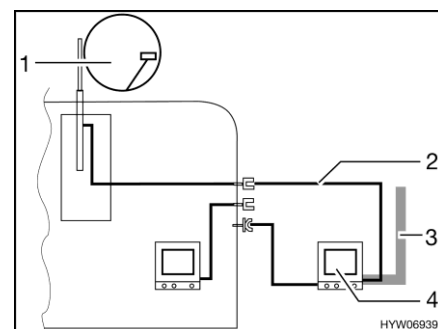

Fig. 206 TV in the awning
- TV inside the awning (Fig. 206,4): Connection to roof antenna (Fig. 206,1) with connection cable (Fig. 206,2)
- TV inside the awning (Fig. 206,4): Connection to external antenna (Fig. 206,3)